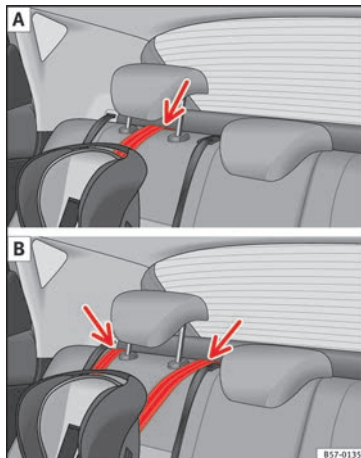

Fig. 30 Retainer strap: adjustment and assembly according to the Top Tether belt.
- Place the belt under the head restraint of the back seat »» **Fig. 30** (depending on the in-